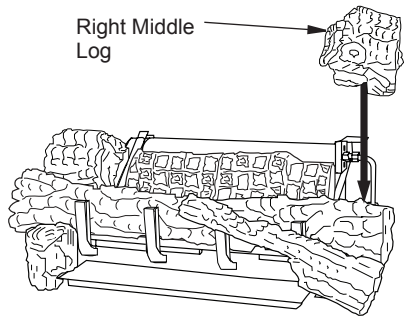

Figure 39 - Installing Right Middle Log
- The right middle log has a groove on the bottom to sit on the chassis and has to sit on the tab on the back of the right front. The right middle log should have a recess area that fits around the ramp log as shown in Figure 39.